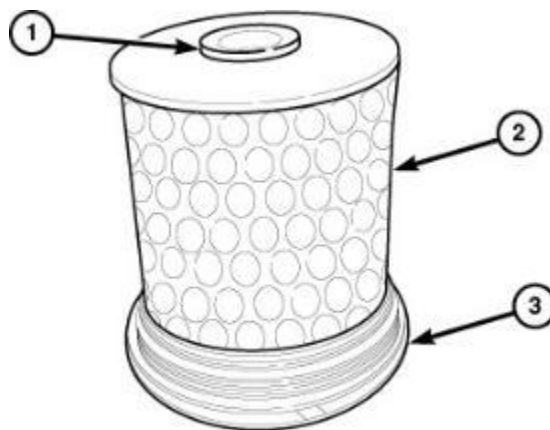

Figure 50 – Filter Seal
106. Position and push down on **NEW** fuel filters (2) to install filter onto the cover (3) (Figure 50).
107. Lubricate the rubber seal (1) with clean diesel fluid (Figure 50).